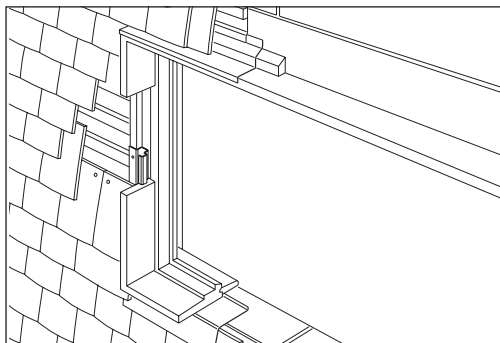

Fig 86 – Abutment to window
- Lead is taken around corner and top edge taken into brickwork mortar joints (Fig 86).